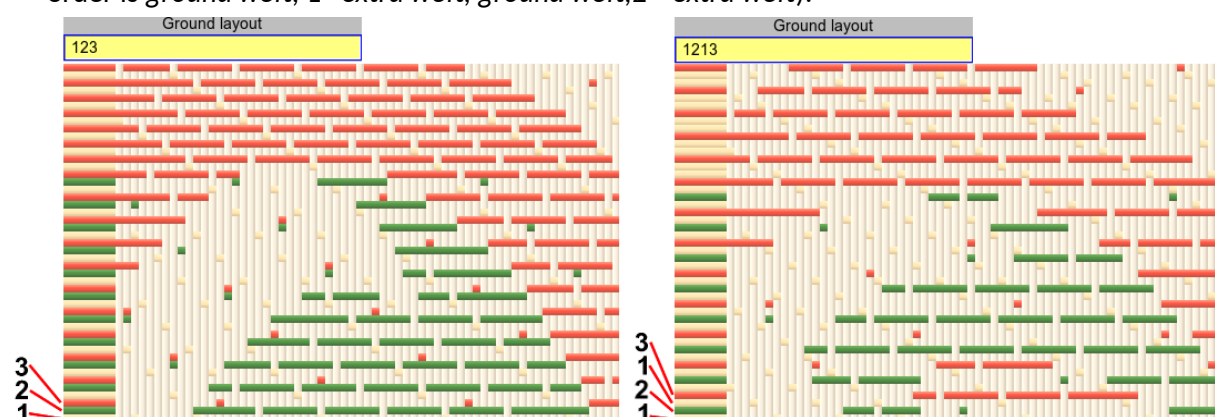

Figure 274: Simple ground layer, and two ground wefts per layer (ground weft is yellow)
4. **Ground layout** is a powerful feature for setting different densities (number) of wefts in each layer. If the field is empty, than program takes simple order of wefts, like *ground weft, 1st extra weft, 2nd extra weft, ground weft, 1st extra weft, 2nd extra weft* and so on (as it is a default, you don't need to write it in the **Ground layout** field; empty field simply means the layout of 1234..). Figure 274 shows ground and two extra wefts in simple order 123 (*ground weft, 1st extra weft, 2nd extra weft*), and more complex **ground layout**, written as 1213, where 1 means ground, 2 and 3 are extra wefts (so order is *ground weft, 1st extra weft, ground weft, 2nd extra weft*).